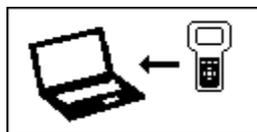

Fig. 66
3. Press  key on the keypad and the display will show as (Fig.66) below and the Analyser is ready for link up.